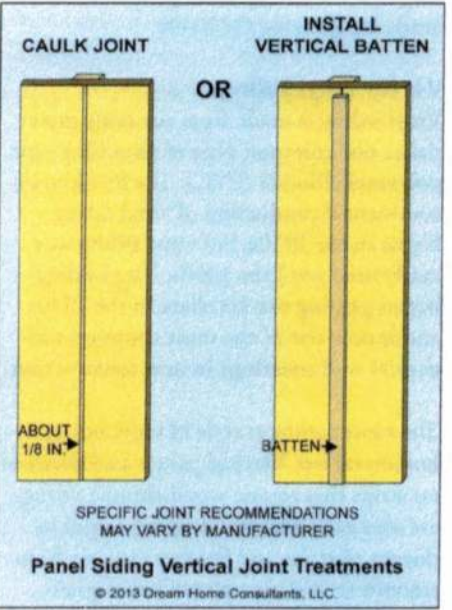

Figure 2
- Vertical joints should have a gap of about ⅛ inch between siding butt-joints (joints between 2 pieces of siding) and between siding and components such as corner boards and windows. Gaps should be caulked. Other joint treatments such as battens may be acceptable for some hardboard siding styles. See Figure 2.